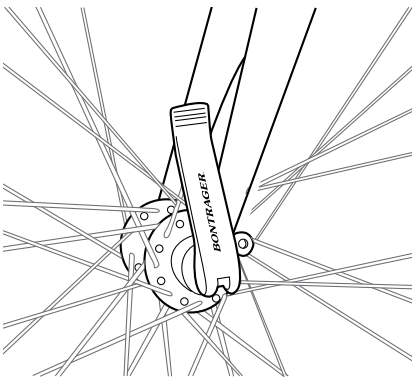

Figure 42. Front lever position
4. Align the levers so they do not touch a part of the bicycle or an accessory part (such as rack or fenders), and so obstacles in the path of the bicycle can not catch the levers (Figure 42 and 43).